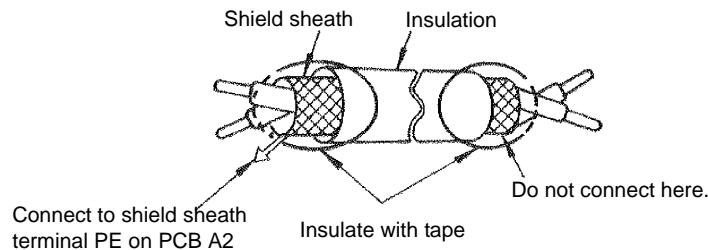

Fig 1.7 Preparing the Termination of Shielded Twisted-Pair Cables
4. Use twisted-pair or shielded twisted-pair cables for control circuits to prevent operating faults. Prepare cable ends as shown in Figure 1.7.